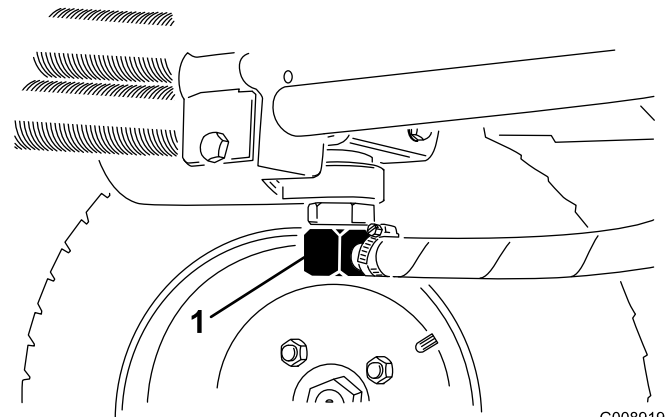
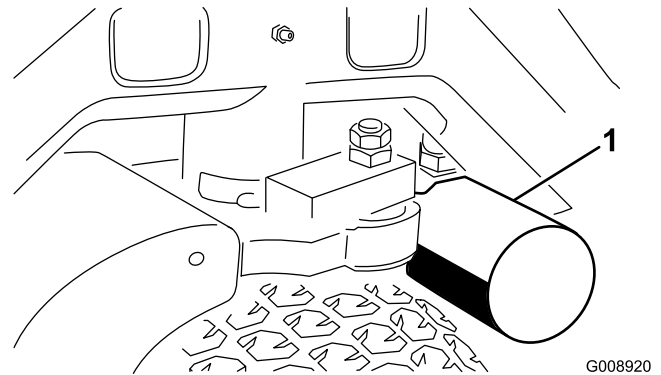

Figure 75
Figure 76
2. Disconnect the hydraulic line (Figure 75) or remove the hydraulic filter (Figure 76) and let the hydraulic fluid flow into a drain pan.
4. Place a drain pan under the filter (Figure 76) and remove the filter.